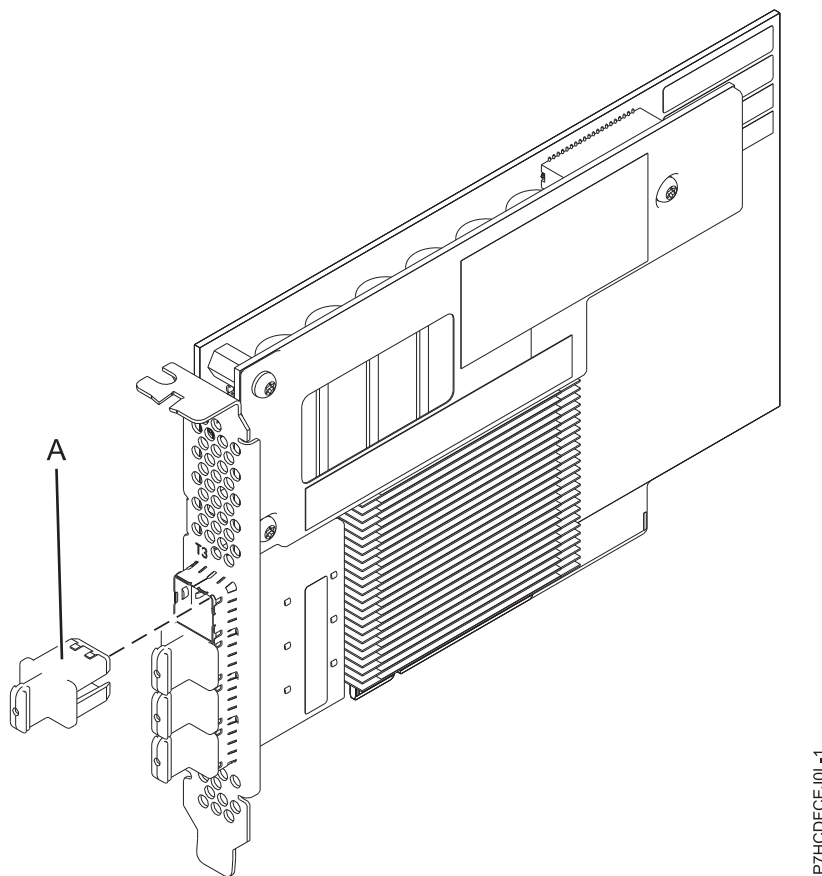

Figure 17. PCIe3 12 GB Cache RAID SAS 6 Gb Adapter
Figure 17 shows the PCIe3 12 GB Cache RAID SAS quad-port 6 Gb adapter. The connector plug (A) is installed in an empty port and prevents damage to that port whenever a cable for the adjacent port connectors is plugged-in or removed.
The FC EJ0L is a single wide, full-height, short adapter. Figure 17 shows the FC EJ0L adapter. Every FC EJ0L requires another FC EJ0L on this server, or on another server, which pairs with the SAS RAID adapter and enables cache functionality and the other multi-initiator high availability (dual storage IOA) functions.